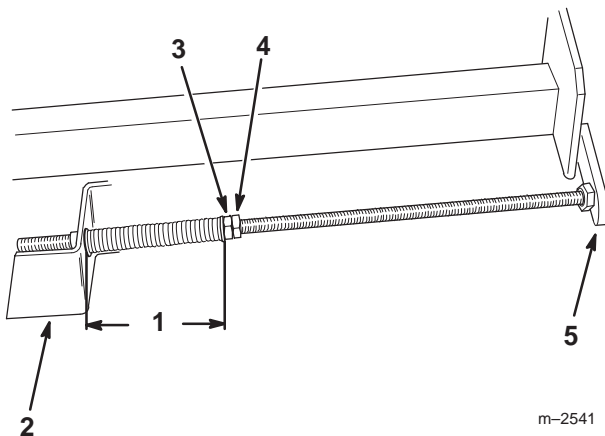

Figure 6
6. Insert the spring end of the adjusting shaft into the hole in the deck mounting bracket. Note that the small end of the bushing fits into the hole in the deck bracket. Insert the locknut end of the adjusting shaft into the carrier frame mounting tab (Fig. 6).
7. To tension the belt, tighten the front jam nut on each adjusting shaft until the springs are compressed to 5 inch (12.7 cm). Measure the spring compression between the spacer and the bushing (Fig. 6).
8. Tighten the rear jam nuts (Fig. 6).